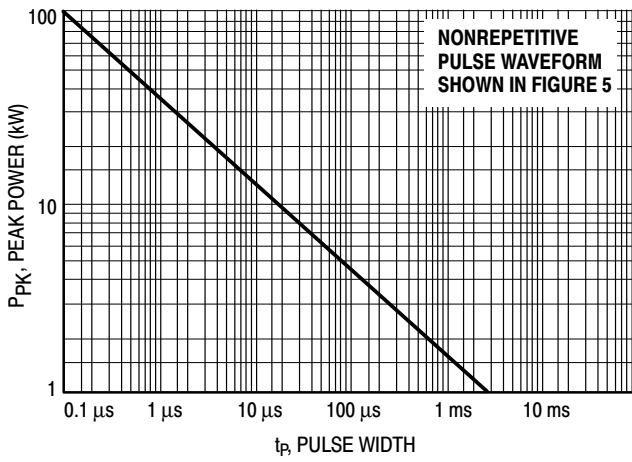
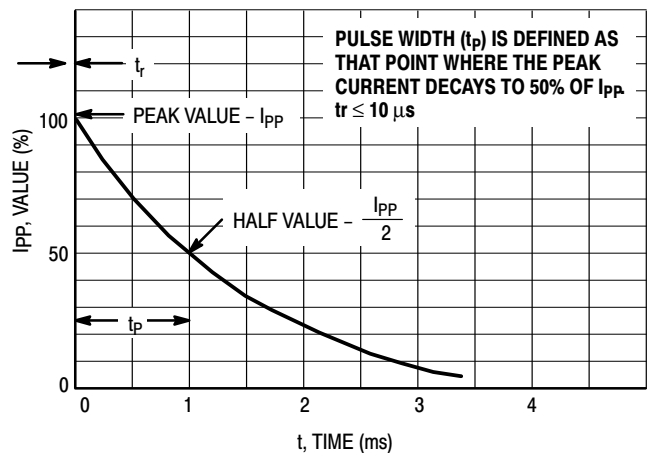
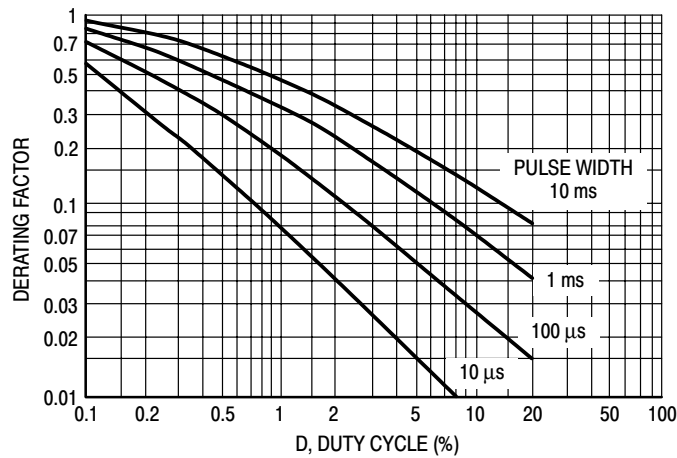

Figure 1. Pulse Rating Curve
Figure 5. Pulse Waveform
Figure 7. Typical Derating Factor for Duty Cycle
7. Surge current waveform per Figure 5 and derate per Figures 1 and 2.
The data of Figure 1 applies for non-repetitive conditions and at a lead temperature of 25°C. If the duty cycle increases, the peak power must be reduced as indicated by the curves of Figure 7. Average power must be derated as the lead or
At first glance the derating curves of Figure 7 appear to be in error as the 10 ms pulse has a higher derating factor than
the 10  $\mu$ s pulse. However, when the derating factor for a given pulse of Figure 7 is multiplied by the peak power value of Figure 1 for the same pulse, the results follow the expected trend.